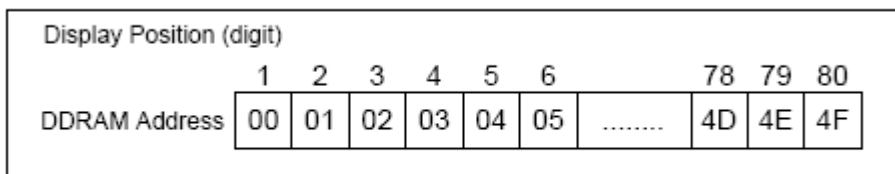

Figure 8. 1-Line Display
**Ø 1-line display (N = 0) (Figure 8)**
When there are fewer than 80 display characters, the display begins at the head position. For example, if using only the ST7032, 16 characters are displayed. See Figure 8.